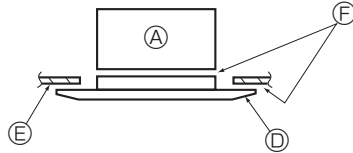

Fig. 5-8
- * Make sure that there are no gaps between the main unit and the grille or the grille and the ceiling. (Fig. 5-8)